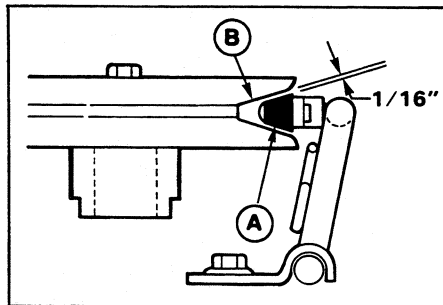

**Figure 38. Turnbuckles**
6. If adjustment is needed, remove the two pins (A, figure 38) by removing the cotter pins. Loosen the jam nuts (C).